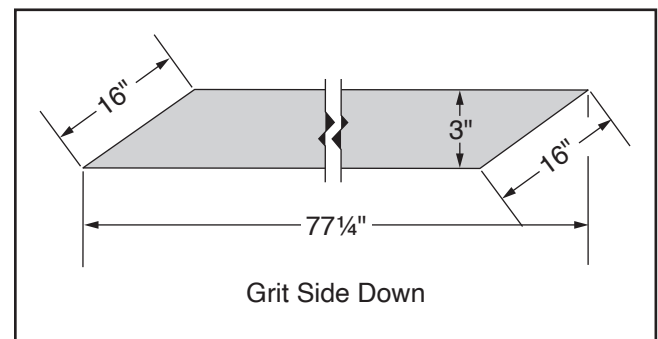

Figure 16. Sandpaper pattern for drum.
6. Use old sandpaper strip as pattern, if possible. Otherwise, use pattern in **Figure 16** to cut new piece of sandpaper to necessary shape.